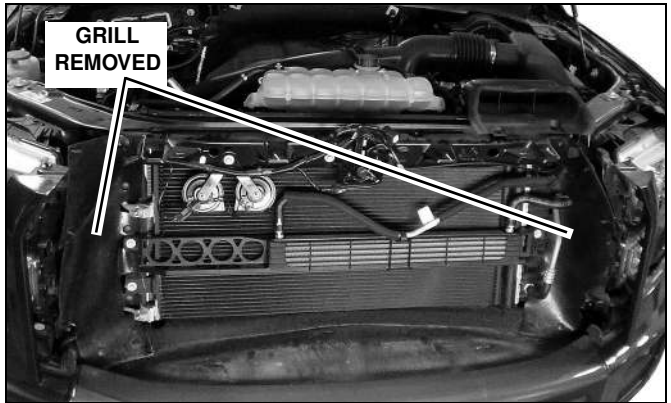

Figure 8
4. Remove the grill by lifting straight up and then out. (See Figure 8)